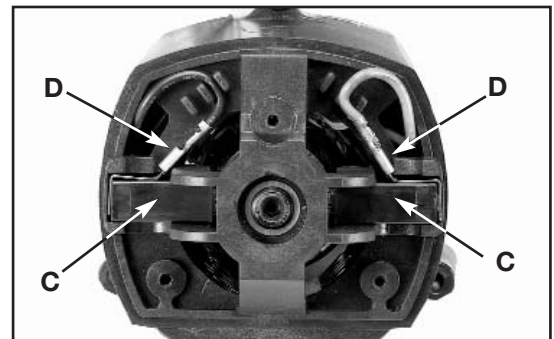

Fig. 42
2. The brushes are located in the two holders (C) Fig. 42. Remove terminal connector (D) and pull out brush holders (C).